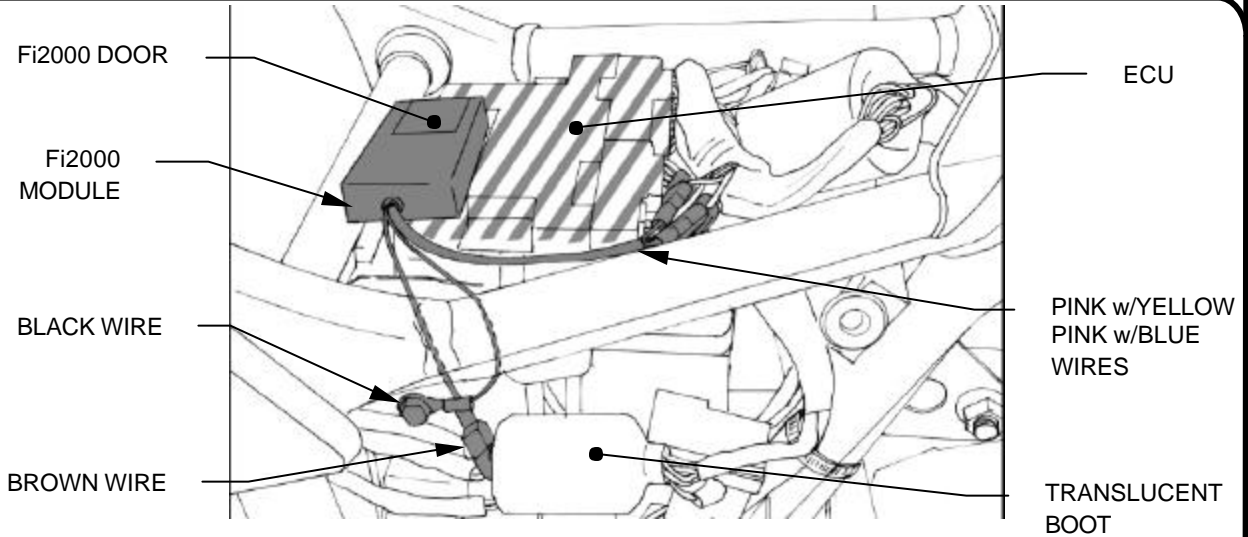

FIGURE 1
3. Locate the BROWN wire in the wiring loom on the right side of the motorcycle where the side cover was (the wire comes out of the translucent boot) Attach a supplied t-tap connector on that wire. Refer to figure 1
4. Place the CORBA Fi2000 module on top of the factory ECU towards the center and the rear. Refer to figure 1
5. Feed the BROWN and BLACK Fi2000 module wires down from the top, behind the side frame rail. Refer to figure 1
6. Attach the Fi2000 BROWN wire to the t-tap connector on the BROWN wire and then attach the ring connector on the BLACK wire to the M10 bolt directly above that connection. Refer to figure 1
7. On the front right side of the factory ECU find the PINK w/BLUE stripe and PINK w/YELLOW stripe wires coming out of the ECU. Attach the t-tap connectors to each of those two wires and then plug the corresponding colored wires from the Fi2000 to each of those t-tap connectors. Refer to figure 1.
8. Remove the backing from the Velcro and attach the Cobra module to the top of the ECU (see fig 1).
9. Before re-installing the seat and side cover, verify your connections. Remove the door from the Fi2000 box to expose the LED's. Verify the wire connections by (1) turning the ignition on, prior to starting, and see if all three LED's are on steady. If you have no light, either your ground connection (BLACK wire) is not solid or, (more likely) your BROWN wire connection is incorrect. You have either tapped on the wrong wire or the tap has not made contact. (2) After achieving a steady light from all three LED's, start the motorcycle and let it idle, the green light should now be the only LED on. If all three LED's are still on after start up, your PINK w/BLUE stripe wire connection is incorrect; if all three LED's are flashing, your PINK w/YELLOW stripe wire connection is wrong. Again verify correct color and tap contact. Reattach the door when finished. **Note:** Make sure the ignition is turn off before changing any connection.